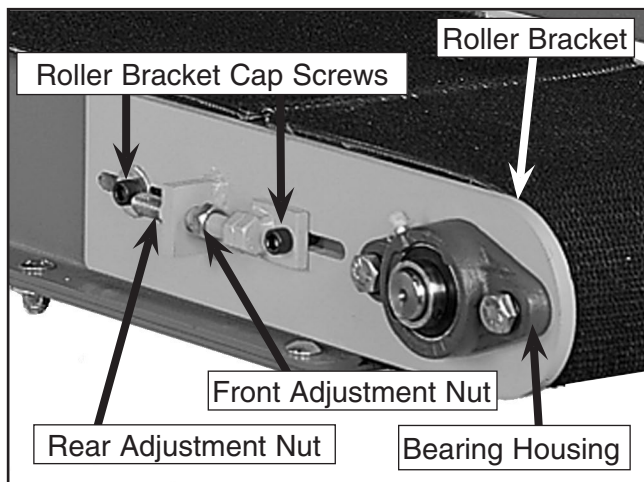

Figure 63. Tracking adjustment components.
1. Loosen the two roller bracket cap screws on the both sides of the conveyor (shown in **Figure 63**) about $\frac{3}{4}$ of a turn.
7. Adjust the outfeed end of the conveyor by loosening the bolts on the outfeed bearing housing (similar to the bearing housing shown in **Figure 63**) and sliding it forward or backwards.
3. Loosen the roller bracket by turning the roller bracket cap screws $\frac{3}{4}$ of a turn (**Figure 63**).